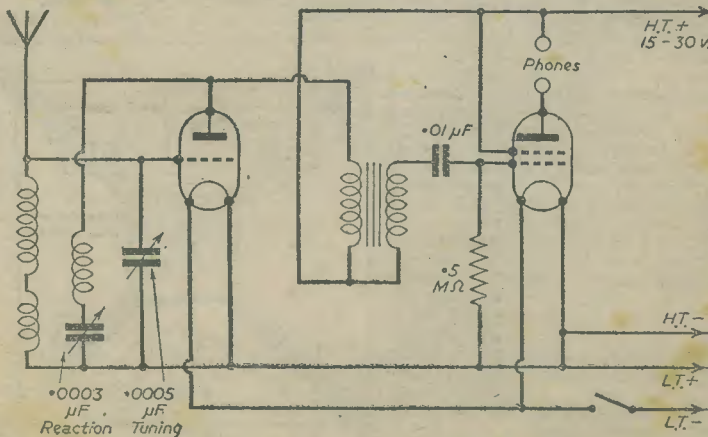

Fig. 2.—A more powerful circuit incorporating an L.F. stage.
H.F. stages are scarcely worth the space they occupy, but an L.F. stage using a pentode or triode is worth adding if really good 'phone volume is required. Resistance-capacity-coupling is not suitable because of the low H.T. voltage available. A parallel-fed transformer may be connected as shown in Fig. 2, or the transformer may be re-wound with the primary and secondary independent if a midget transformer for direct coupling cannot be obtained. As the detector anode current will not exceed .5 mA., there will be no danger of damaging the winding, although these small components are not intended to pass direct current.